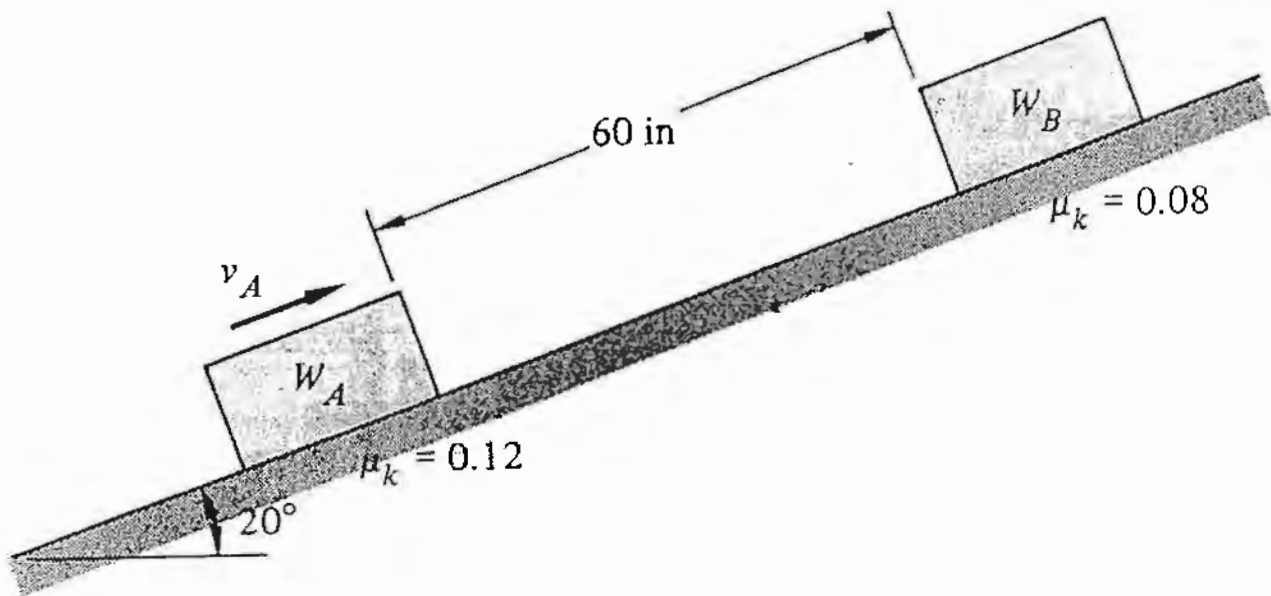

FIGURE 5.
- V. At the instant shown in figure 5, block **B** is released with zero initial velocity. The velocity of block **A**,  $v_A$ , is constant, and the blocks collide at a position 20 inches from the original position of block **B**. The impact is assumed to be elastic. Block **A** weighs 10 lbf and block **B** weighs 12 lbf.